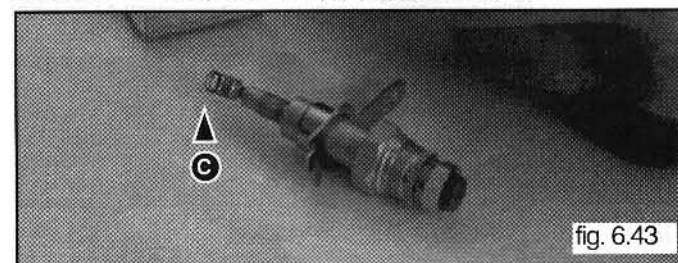

fig. 6.43
- 7 Slide the coil from its housing, being very careful not to loose spring "C" (see fig. 6.43);